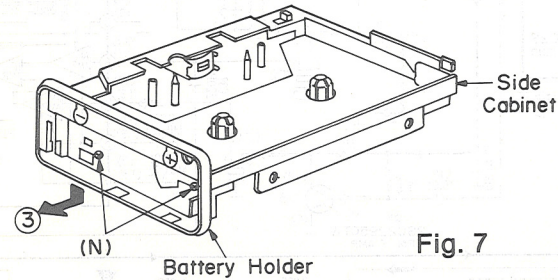

Fig. 7
1. Remove the screw (N) (1.4×2.5)mm×2. (Fig. 7)
2. Remove the Battery Holder in the direction of the arrow ③. (Fig. 7)